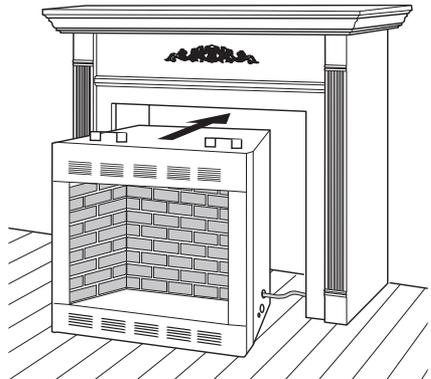

Figure 11 - Inserting Firebox Into Cabinet Mantel (Model May Vary From Illustration)
8. Carefully insert firebox into cabinet mantel. Be careful not to scratch firebox, cabinet mantel, flooring, etc. when installing (see Figure 11).